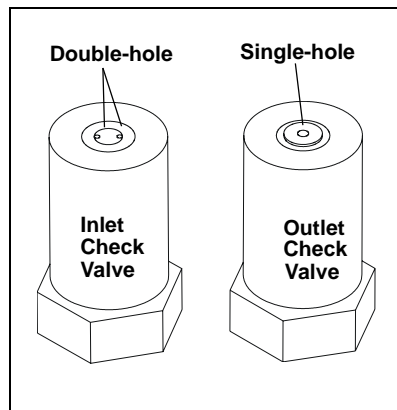

Figure 5-11. Pump Heads
4. Disconnect the tube fittings from the inlet and outlet check valve assemblies on the primary pump head (see Figure 5-11).
3. Locate the open-end wrench (P/N 014605) provided in the ICS-2000 Ship Kit (P/N 057905). Use the wrench to remove the two acorn nuts (see Figure 5-11) from the pump head.